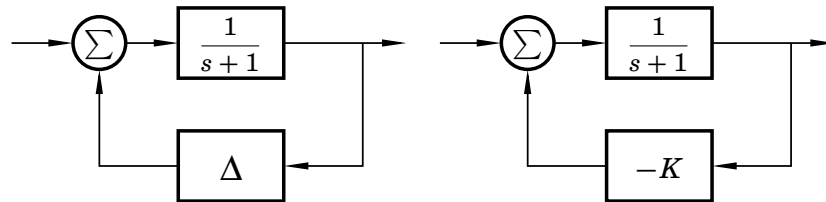

Figure 2.1 Systems in Problem 2.1.
- 2.1 a. Analyze the stability of the system to the left in Figure 2.1 using the Small Gain Theorem. For what values of the gain $\|\Delta\|$ can stability be guaranteed?
- b. Analyze the stability of the system to the right in Figure 2.1, where K is a constant feedback gain. For what values of the gain K can stability be guaranteed? Explain why the result is different from that of a.